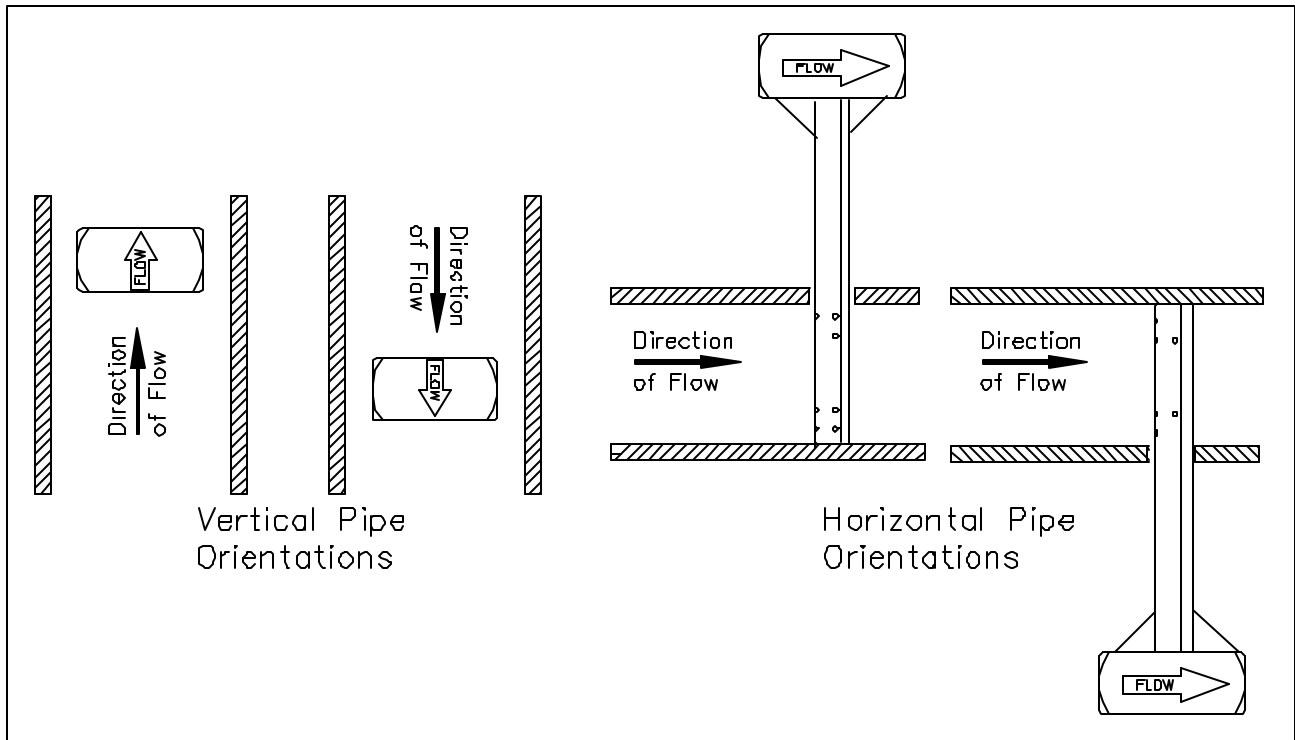

Figure 4. Orientation of Flow Arrow
- Align the head of the sensor so that the arrow labeled "flow" on the head is in the direction of the flow in the pipe to within 3° (Figure 4). Maintain the head in this position for the remainder of the operations.
- While maintaining the "Y" dimension, tighten the compression nut 1-1/4 turns past hand tight. Verify the alignment of the sensor such that the arrow labeled "flow" on the head is in the direction of the flow in the pipe to within 3° (Figure 4). A crescent wrench or pipe wrench can be applied to the head of the sensor to make alignment adjustments.